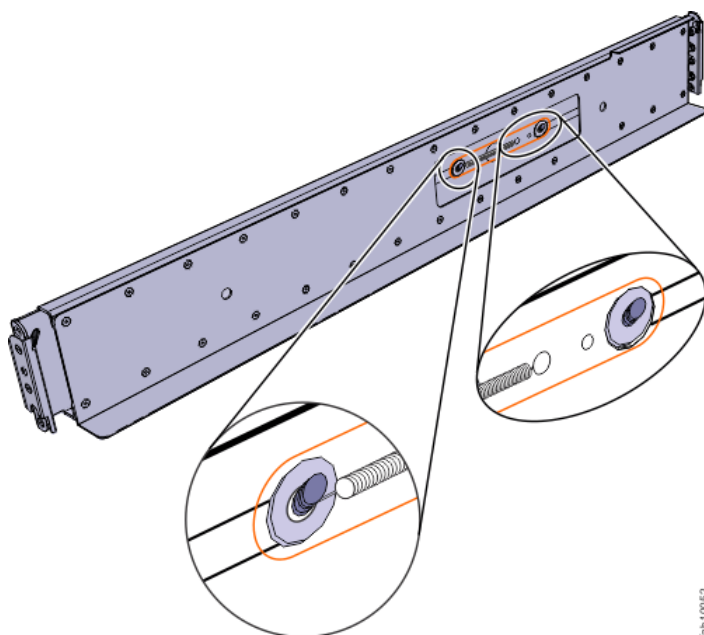

Figure 119. Installing the rail spring
- b) Push one looped end of a spring over one stud on the inside of the rail. (See Figure 119 on page 159.)